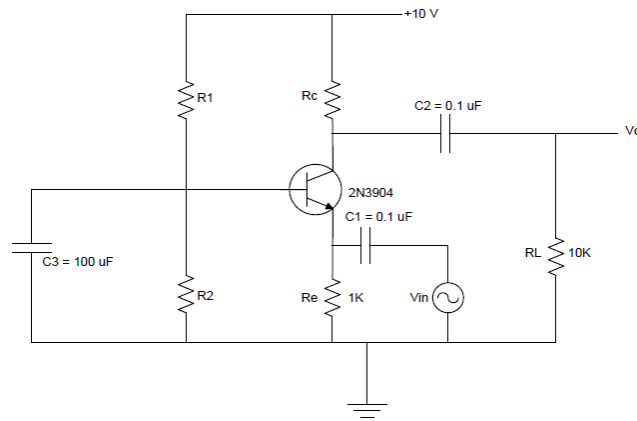

**Figure 7-4 BJT Biasing Configuration**
2. For the circuit of Figure 7-4, calculate values for R1, R2, and Rc to properly bias the BJT such that the quiescent emitter current is approximately 1.5 mA and the quiescent collector to emitter voltage is approximately 5V. Assume  $\beta = 100$ , Re = 1k $\Omega$ , VA = 100V, VBEon = 0.7V, and Vt = 25mV. (Hint: Use standard resistor values less than or equal to 100k $\Omega$  and as close as possible to the calculated values.)